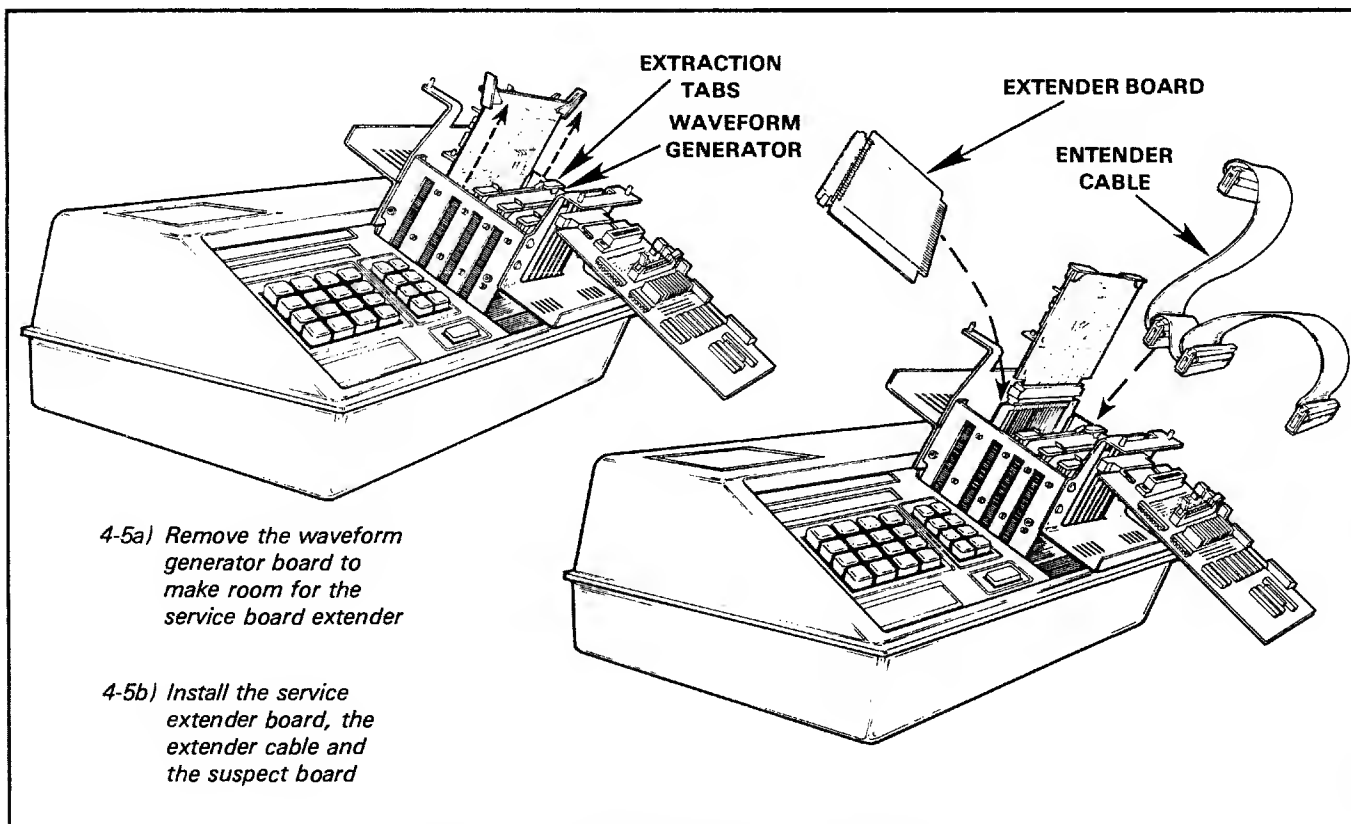

Figure 4-5. Troubleshooting Equipment Setup
10. Rotate the pin driver board 180° and plug it into the connector on the front of the bus extender board (figure 4-5).
13. Lift the extraction tabs on the waveform generator card (figure 4-5).
14. Pull out the waveform generator board along the guides (figure 4-5).
16. Firmly, but gently, push the service cable into the connectors on the three boards (as shown in figure 4-5). Notice that the extraction tabs will move back to their locked positions when the cable is locked into the connector.
17. Gently push the extender cable into the connector on the pin driver board (see figure 4-5).